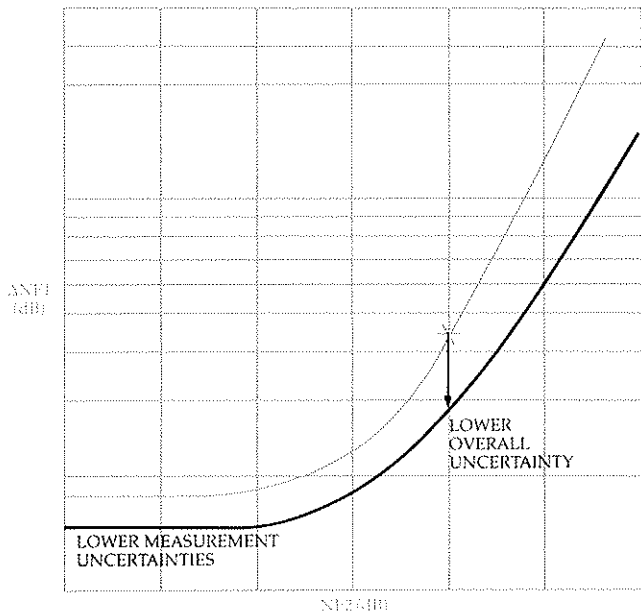

Figure 4.3 Lower ENR, mismatch, and instrumentation uncertainties shift the curve downward (lower overall uncertainty results).
**Individual uncertainties:** Changing the ENR, instrumentation, and mismatch uncertainties lowers or raises the uncertainty curve. (See Figure 4.3.) (Changing these uncertainties also tends to decrease or increase the curve's slope.) Measurement accuracy can be improved by lowering one or more of the individual uncertainties.